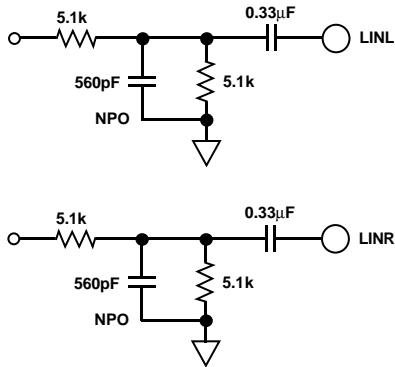
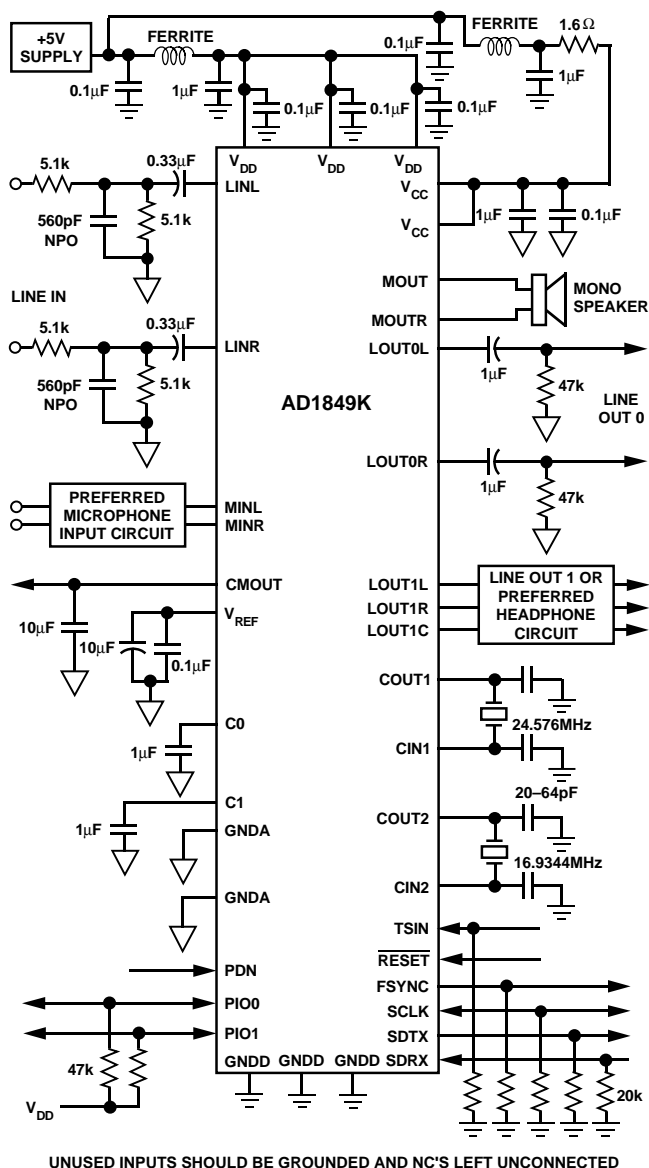

Figure 11. AD1849K 2 V rms Line-Level Input Circuit
Figure 21. Typical Connection Diagram
The AD1849K Stereo Codec has been designed to require a minimum of external circuitry. The recommended circuits are shown in Figures 11 through 20 and summarized in Figure 21. Analog Devices estimates that the total cost of all the components shown in these Figures, including crystals, to be less than \$5 in 10,000 piece quantities.
A circuit for 2 V rms line-level inputs is shown in Figure 11. Note that this is approximately a divide-by-two resistive divider.
The two PIO pins must be pulled HI, as they have open drain outputs. Analog Devices also recommends pull-down resistors for SCLK, FSYNC, SDTX, SDRX, and TSIN to provide margin against system noise. CLKIN, CIN1, and CIN2, if not used, should be grounded. A typical connection diagram is shown in Figure 21, which serves to summarize the preceding application circuits.
- The AD1849K requires an external *passive* antialias filter as shown in Figure 11. In contrast, the recommended input circuit for the CS4215 is a single-pole *active* filter requiring a dual op amp. Though overkill for the AD1849K, this input circuit will work with the AD1849K as well.